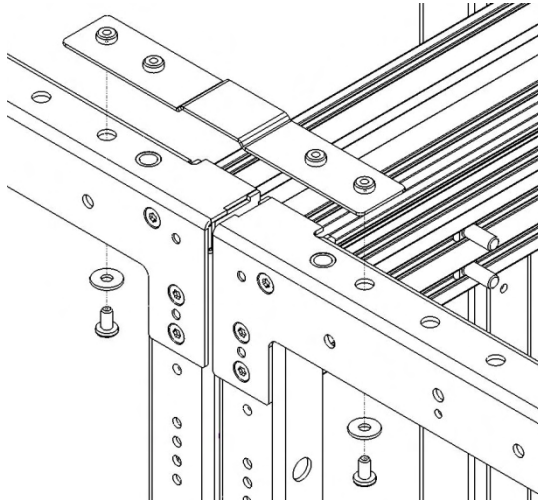

Fig. 2.9.1 Attaching the baying bracket
3. Attach the brackets with M6 screws and washers. See Fig. 2.9.1.
3. Attach the brackets with M6 screws and washers (see Fig. 2.9.1 for the mounting location). The bracket looks like Fig. 2.9.2.3a.